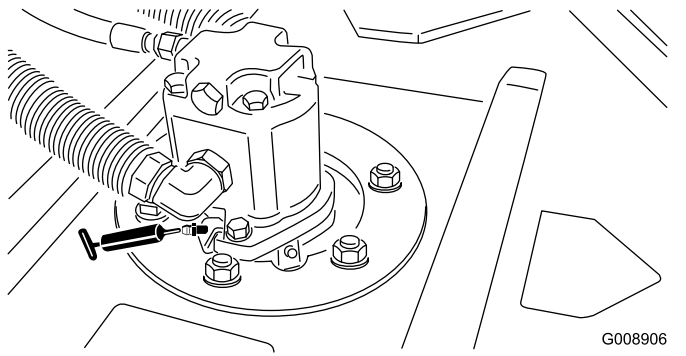

Figure 53
- Cutting unit spindle shaft bearings (2 per cutting unit) (Figure 53)